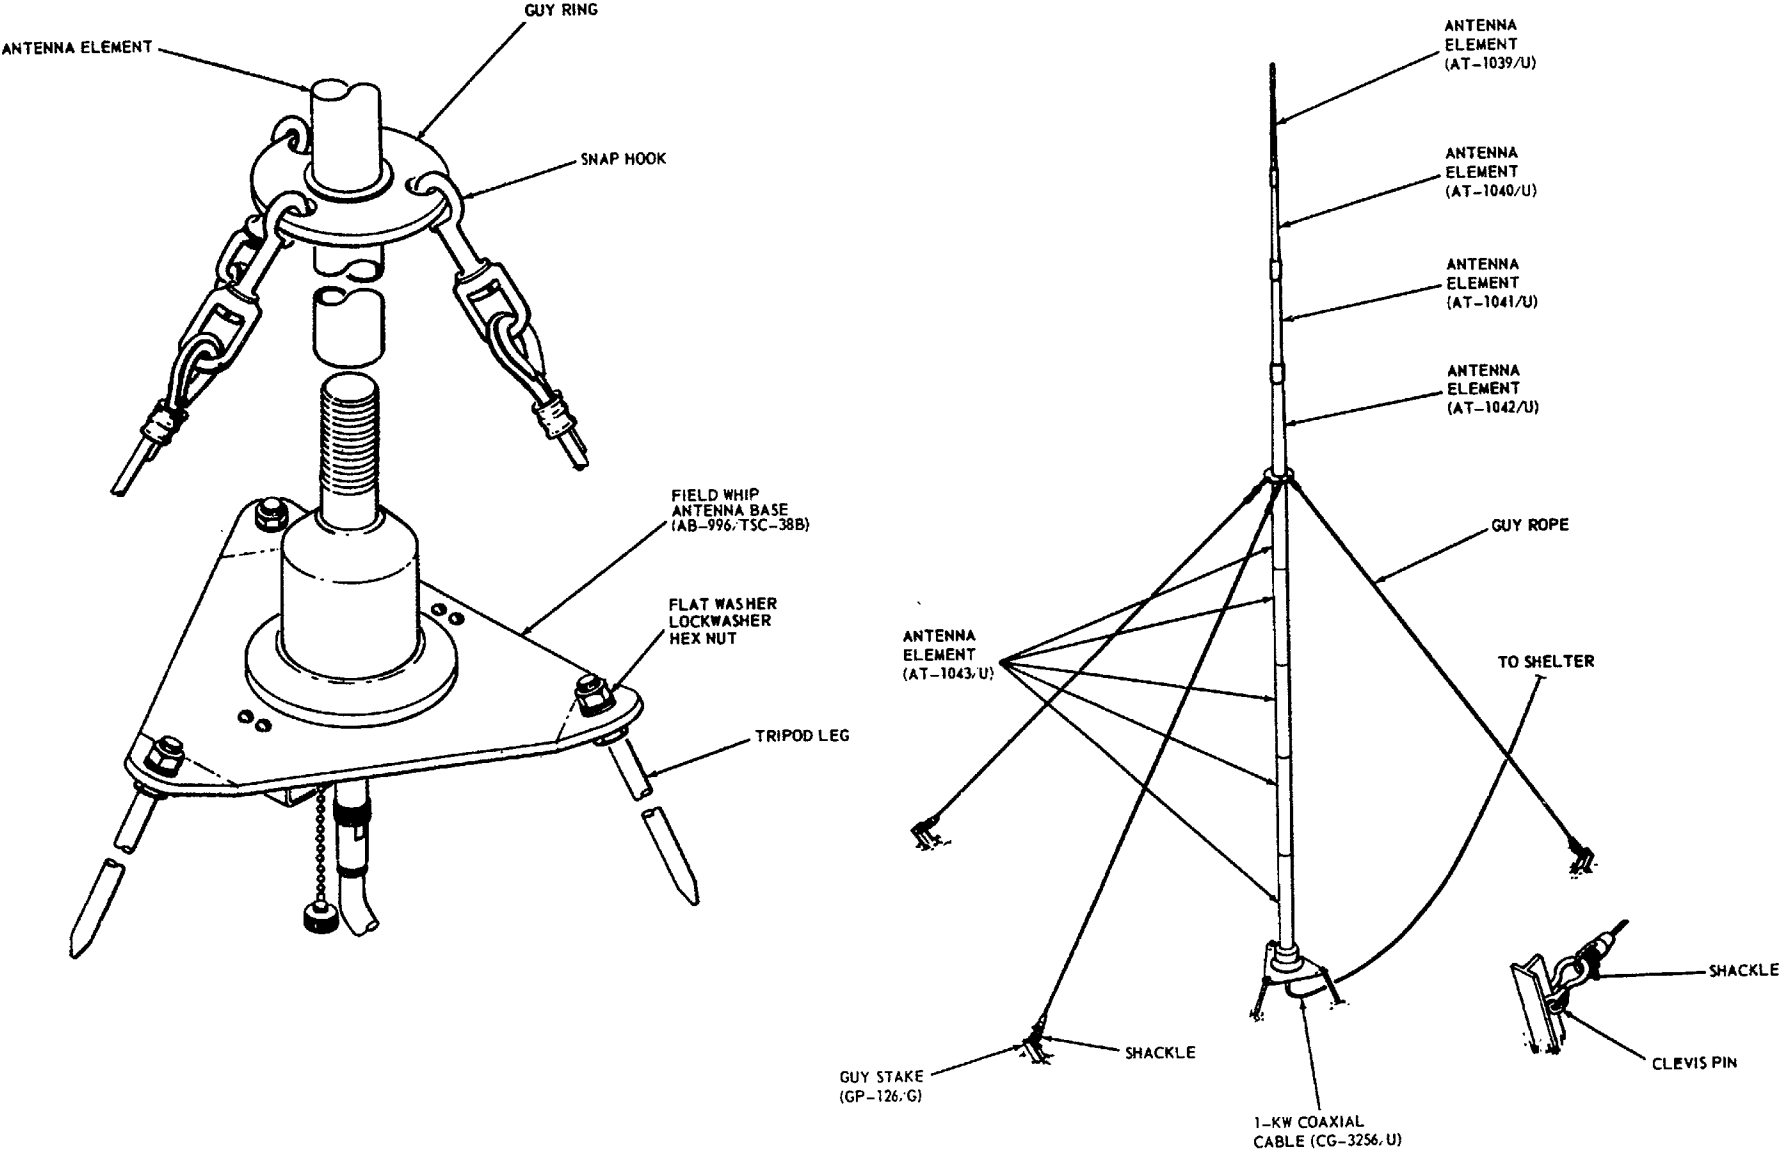

Figure 2-9. Field whip antenna installation.
- (3) Select the antenna location behind the sloping vee antennas and, if required, level the area.
- (4) Secure the tripod legs to the base assembly with nuts and washers as shown in figure 2-9.
- (5) Set the tripod in the selected location. If further leveling is necessary, back off or take up on the nuts securing the base assembly to the tripod legs.
- (6) Screw the nine antenna elements together in the sequence shown in figure 2-9. Adjust the rubber boots on the sixth, seventh, and eighth antenna elements to form a seal.
- (7) Slip the guy ring over the end of antenna assembly and pull it down until it fits snugly.
- (8) Secure the snap hooks on the end of the guy ropes to the eyes on the guy ring.
- (9) Using two men, screw the antenna assembly onto the male stud on the base assembly.
- (2) Connect one end of the 1-kw coaxial cable to the connector at the bottom of the field whip antenna base (AB-996/TSC-38B) (fig. 2-9).